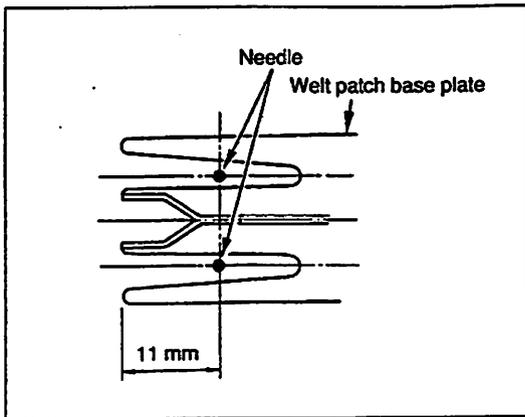
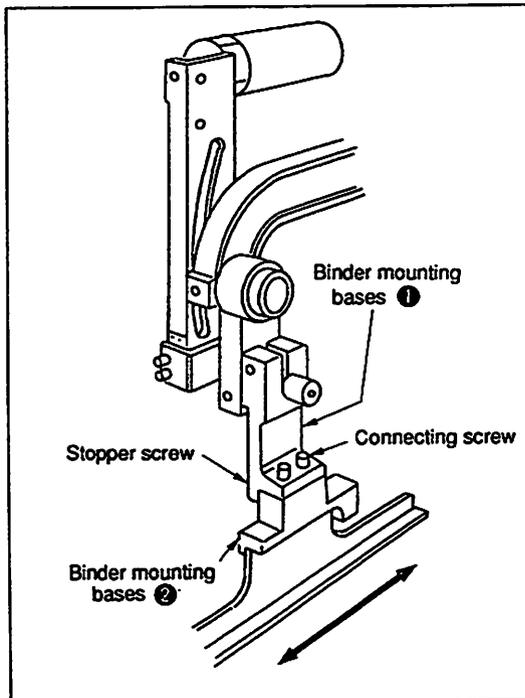

Fig. 32
Fig. 33
5. When the dimension shown in Fig. 32 is not obtained, loosen two screws which are used to join binder mounting bases 1 and 2 shown in Fig. 33 and adjust the dimension by moving the binder circuit board in the direction of the arrow.